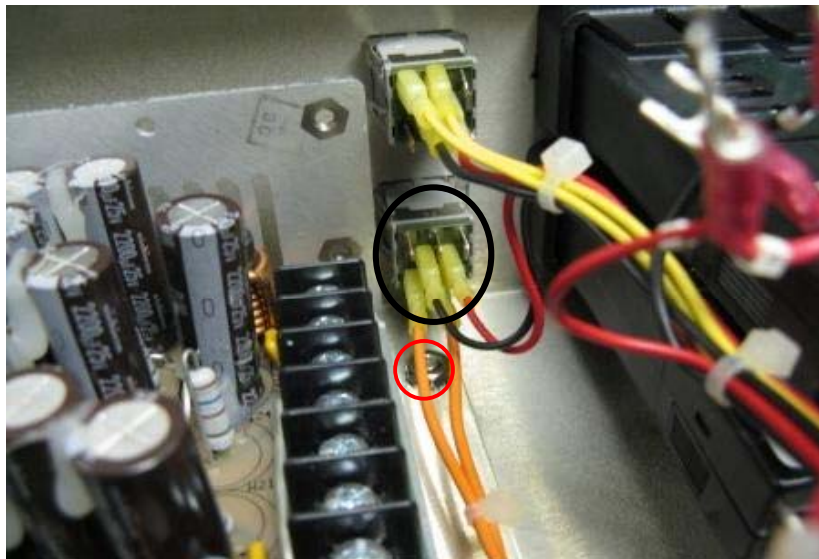

Figure 4
- It may be necessary to unplug the connections to the Operate switch to allow you access to one of the nuts that hold the Power Supply to the bracket inside the chassis. **(Note: Be sure to note the location of each wire and which pin it is connected to before removing the connectors.)** Fig. 4